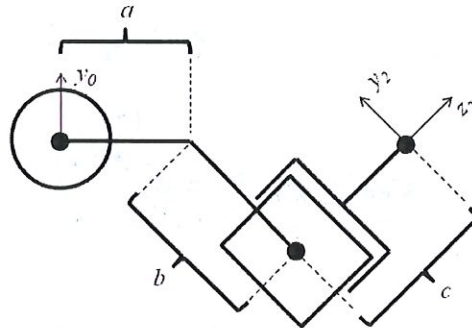

Figure 2: Top-down view of arm.
2. (25 points) Consider the RR arm shown in Figure 2; this arm is similar to the arm from Question 1 except that the link has a bend of -45° .